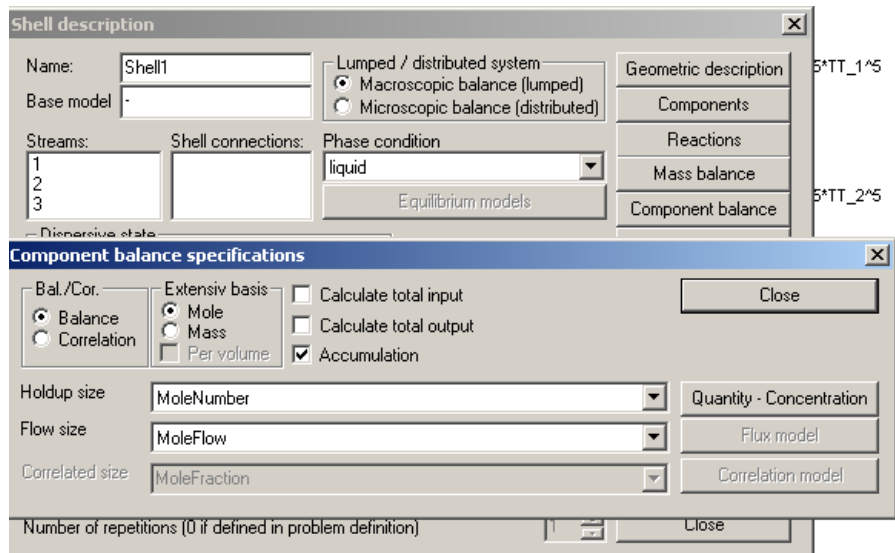

Figure 17: Changing of component balance equation.
Step1: Change component balance equation – Double click on the shell to enter the “shell description” tool. Click on “component balance”, select “accumulation” in the “component balance” tool and exit by clicking on “close” in the “component balance” tool (fig. 17). This will add a molar hold-up term to the left-hand side of equation 12 (replacing the “0” from the steady state version). The molar hold-up term will now have to be related to the flow-out of the tank (stream 3). This is done in the next step, before exiting from the “shell description” tool.